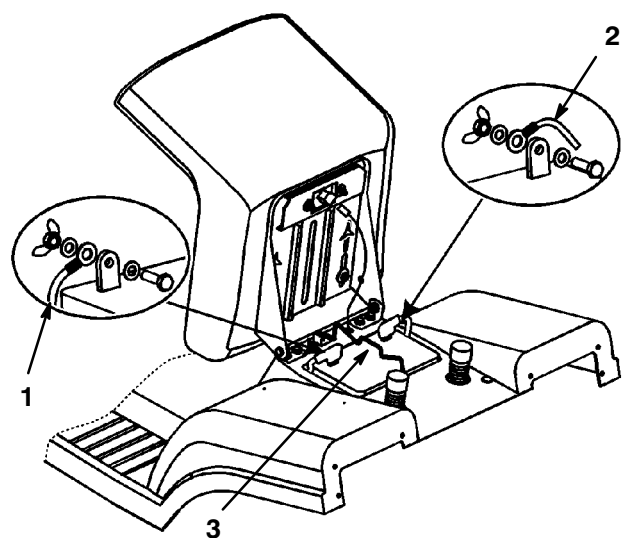

Figure 23
3. Lift the rubber cover up off the negative (black) cable. Disconnect the negative (black) ground cable from the battery post (Fig. 23).
4. Lift the rubber cover up off the positive (red) cable. Disconnect the positive (red) cable from the battery post (Fig. 23).
5. Remove the battery hold down rod (Fig. 23).
1. Place the battery into the chassis with the battery posts toward the front of the tractor (Fig. 23).
2. Secure the battery in the chassis with the hold down rod (Fig. 23).
3. Using the bolt and wing nut, connect the positive (red) cable to the positive (+) battery post (Fig. 23). Slide the rubber cover over the battery post.
4. Using the bolt and wing nut, connect the negative (black) cable to the negative (-) battery post (Fig. 23). Slide the rubber cover over the battery post.